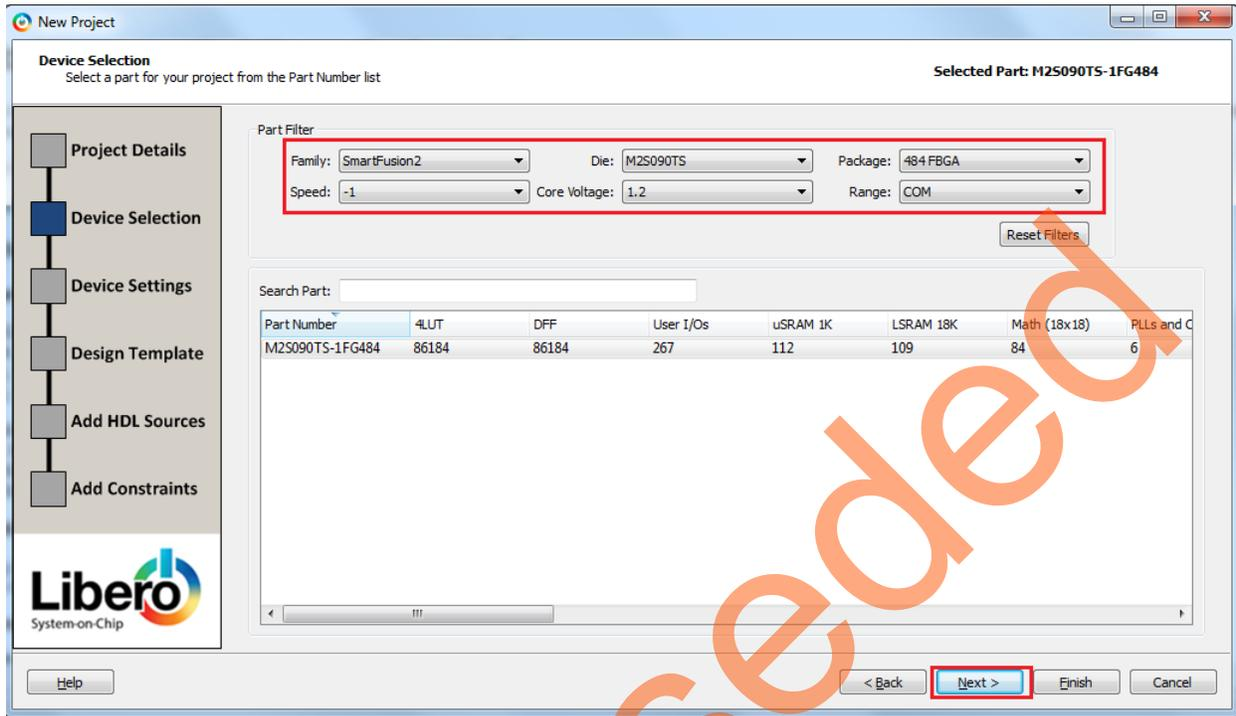

Figure 4 • Device Selection Page
4. Click **Next**. This opens **Device Selection** page as shown in Figure 4. Select the following values from the drop down list: